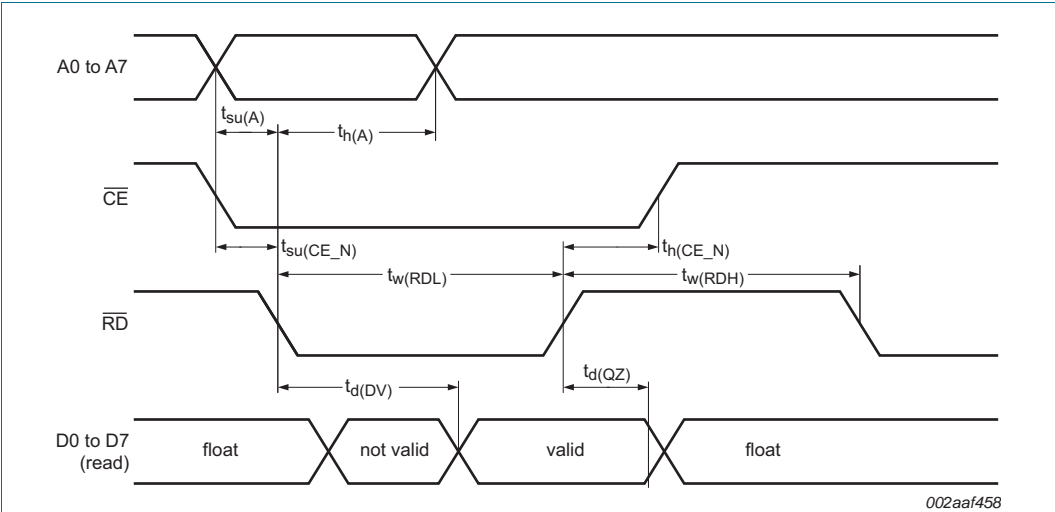

Fig 23. Bus timing (read cycle)
Bus timing (see <a href="#">Figure 23</a> and <a href="#">Figure 25</a> )
- [2] All voltage measurements are referenced to ground ( $V_{SS}$ ). For testing, all inputs swing between 0 V and 3.0 V with a transition time of 5 ns maximum. All time measurements are referenced at input voltages of 1.5 V and output voltages shown in Figure 23 and Figure 25.